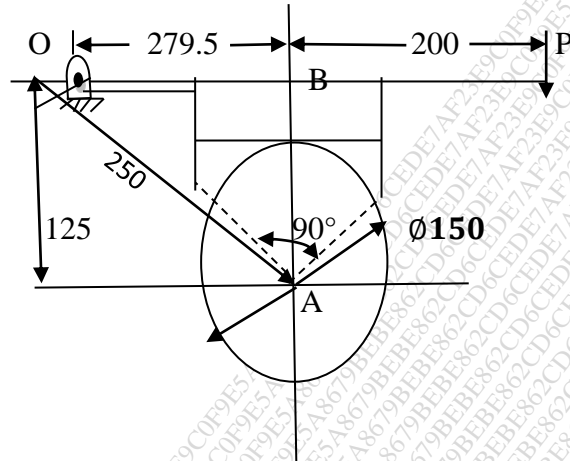

figure 01
- Q.9 Figure 01 shows a long shoe brake. Find the power absorbed and the force P, if the maximum pressure intensity is 0.8 mpa . Assume $\mu = 0.25$. The width of the shoe is 50mm derive the expression 13